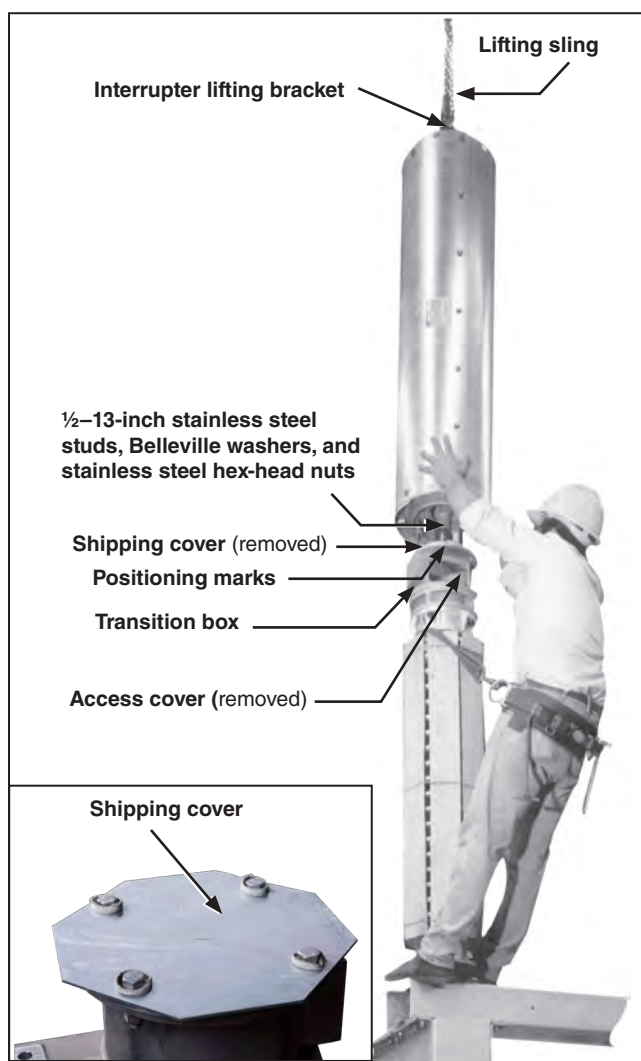

Figure 13. Attaching the interrupter to the insulating support column.
- STEP 1.** Attach a lifting sling to the lifting bracket on one of the interrupters. Remove and discard the clamps and associated $\frac{1}{2}$ -inch galvanized steel hardware that fasten the interrupter shipping bracket to the high-speed base and carefully lift the interrupter slightly higher than the top of the transition column of its associated insulating support column. See Figure 13.
- (a) Remove and discard the shipping cover on top of the transition box. See Figure 13 on page 17, inset.
- (c) Remove the four $\frac{5}{16}$ –18 \times $\frac{3}{4}$ -inch hex-head stainless steel cap screws used to attach the access cover to the side of the transition box. Remove the cover and place it and the hardware on a clean surface. See Figure 13 on page 17. Also remove the cloth bag containing the hardware that will be used to connect the interrupter coupling to the operating rod link in Step 4(g).